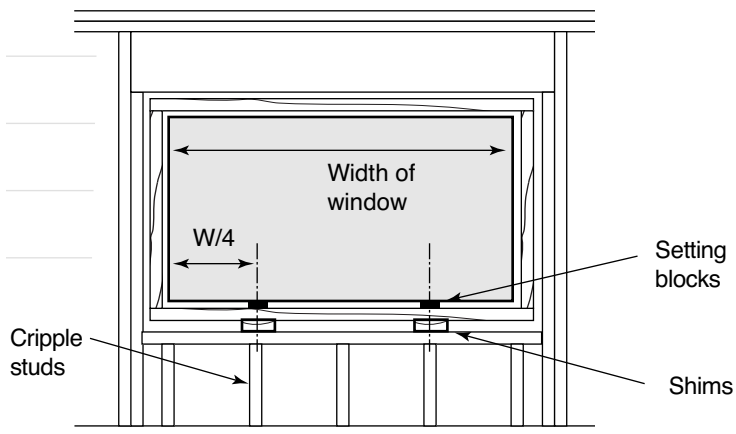

FIGURE 24
- ◆ To prevent downward sagging of the window frame, align shims and cripple studs with the setting blocks, if possible. Setting blocks are usually located at the quarter points in fixed units, and below the junctions of multiple units (see Figure 24).